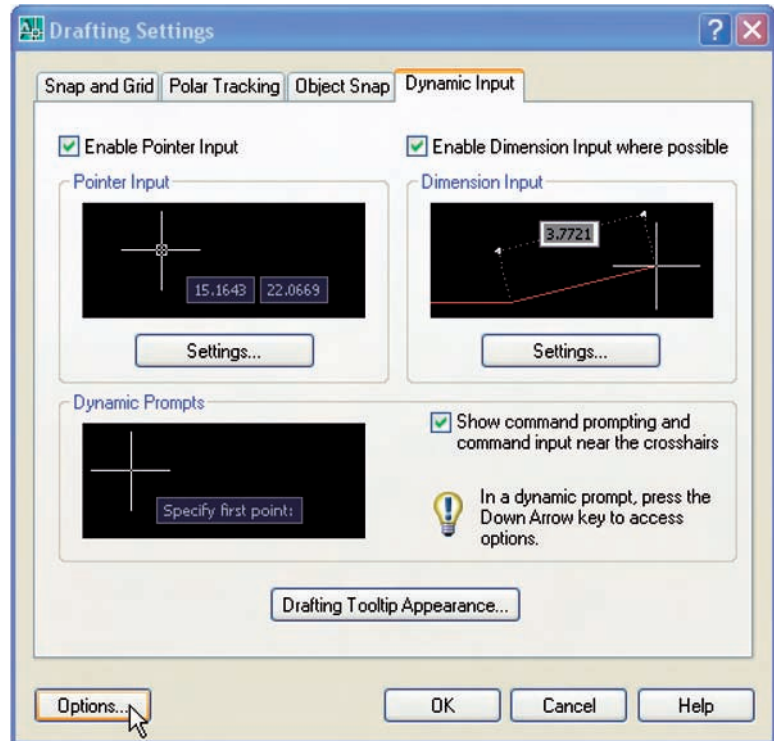

Fig. 3.21 Settings for **DYN** can be made in the **Drafting Settings** dialog
2. Settings for **DYN** can be made in the **Drafting Settings** dialog (Fig. 3.21), brought to screen by *entering **ds*** at the command line.